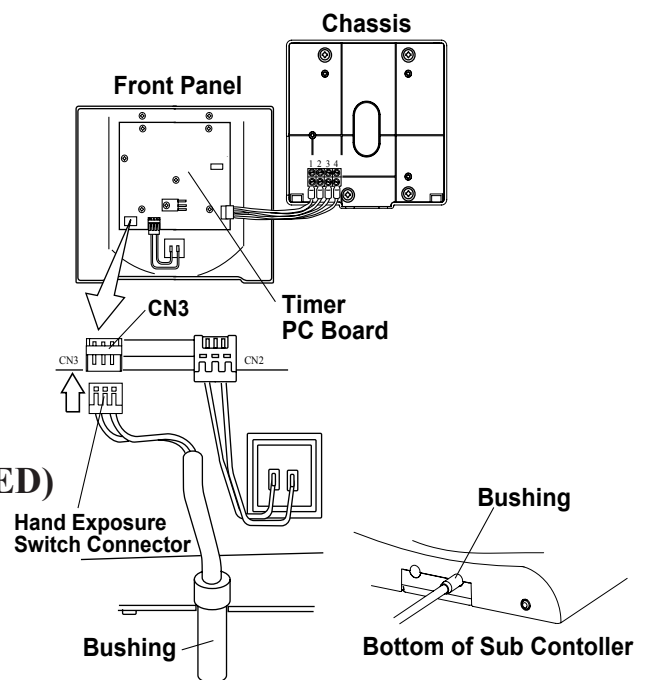

Fig.3-31 Connecting Hand Exposure Switch
- Connect the connector at the end of hand exposure switch coil cord to CN3 connector on the timer PC board. (Fig.3-31)
- Insert the bushing of coil cord into the slot at the bottom of the chassis, reattach the front cover and secure two (M3 x 8mm) screws again. (Fig.3-31)